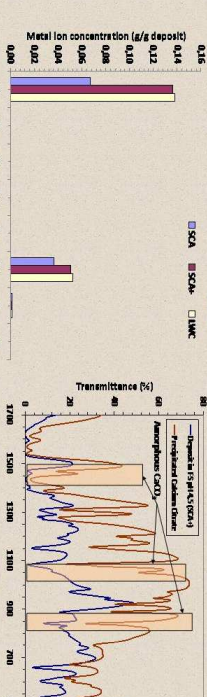

Fig. 6. Metal ion profile of FS precipitates for SCA+
- Significant amounts of calcium was detected in SCA, SCA+ and LWC deposits by ICP-OES analysis (Fig. 6)
Figure 6: The test print form is shown below, where the various components are categorically depicted. As mentioned above, the printing plate design facilitates reproduction of Cyan from three different stations of printing machine. Therefore as shown below, the same four color image or other test elements can be reproduced using three different color sequences. This is achieved by printing cyan from different printing stations without changing printing station for other process colors, viz. Magenta, Yellow and Black.